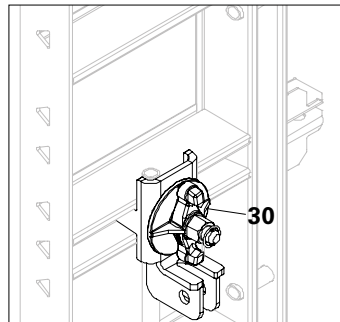

Fig. A6.07b
2. Tighten the wingnut counterplate DW15 (30) to ensure that the J-hook (1a) is properly fixed with stiffener pipe. (Fig. A6.07b)